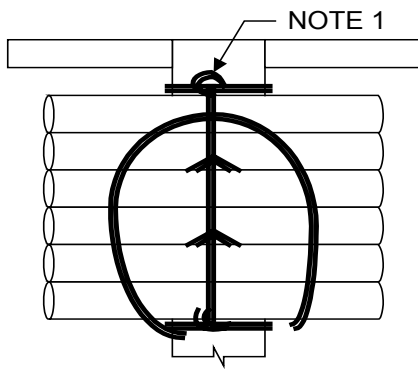

FIGURE 16a
1. KEEP STITCHES IN STRAIGHT LINE IN CENTER OF STRAP (FIGURE 16a).